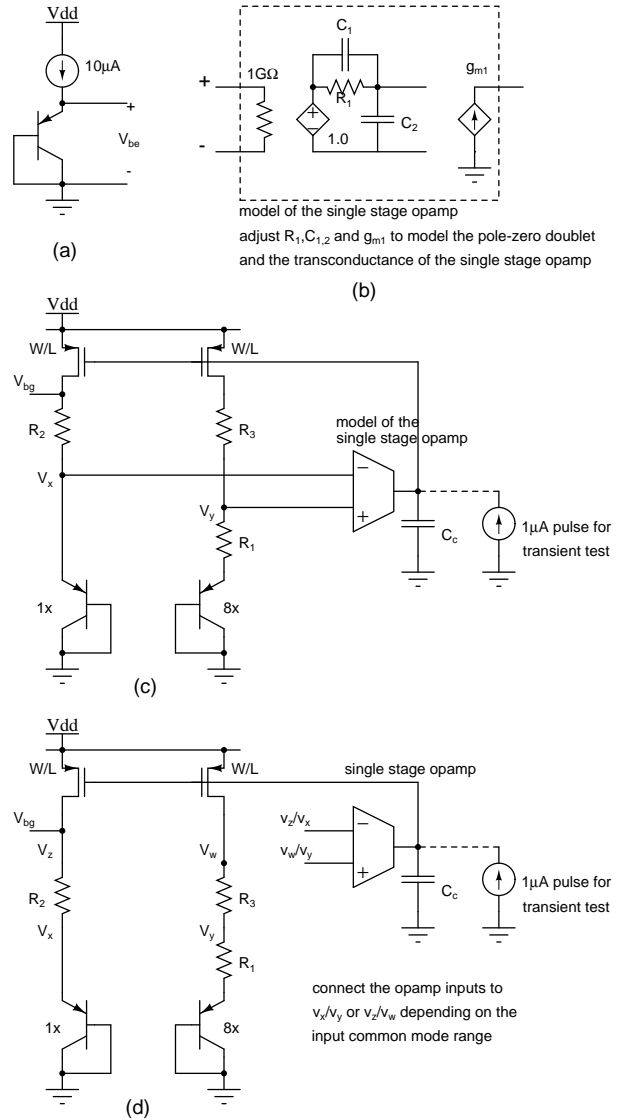

Figure 1: Bandgap reference
1. **Bandgap reference:** Bias a 1x sized diode connected PNP¹ at $10\ \mu\text{A}$ as shown in Fig. 1(a) and sweep the temperature from 0 to 100°C . Determine dV_{BE}/dT at 27°C .
Design the bandgap shown in Fig. 1(c). Choose R_1 for a quiescent current of $10\ \mu\text{A}$ and R_2 to get zero temperature coefficient at V_{bg} . Choose $R_3 = R_2$. What is the role of R_3 ? Simulate the bandgap reference with the model of a single stage opamp designed in the previous assignment (Fig. 1(b)-model the gm, and the pole zero doublet). Choose C_c for ringing $\leq 10\%$. Test the bandgap reference by sweeping the temperature from 0 to 100°C and plot V_{bg} . Test the transient response by applying a $1\ \mu\text{A}$ pulse to the output of the opamp. Adjust the values of $R_1, R_2, R_3 (= R_2)$ if necessary to get zero TC at 27°C .
Modify the circuit as in Fig. 1(d). How should V_x, V_y , and V_{bg} change? What is the purpose of this modification? Resimulate with the opamp model as before and test the temperature sensitivity, transient response and the loop gain.
Use the model in Fig. 1(b) for the single stage opamp. Use a 50 μ A quiescent current in M_1 . Adjust the width (with minimum length) of M_1 for a dropout of 300 mV with a 50 mA current. You can use a 1.2V voltage source in place of the bandgap reference. Compensate the loop using a load capacitor C_L for a phase margin of 45 $^\circ$ at $I_L = 0$ and $I_L = 50$ mA and choose the higher one. Do the following (except the last one) for two cases ($I_L = 0$ and $I_L = 50$ mA—you can use a current source for the load):